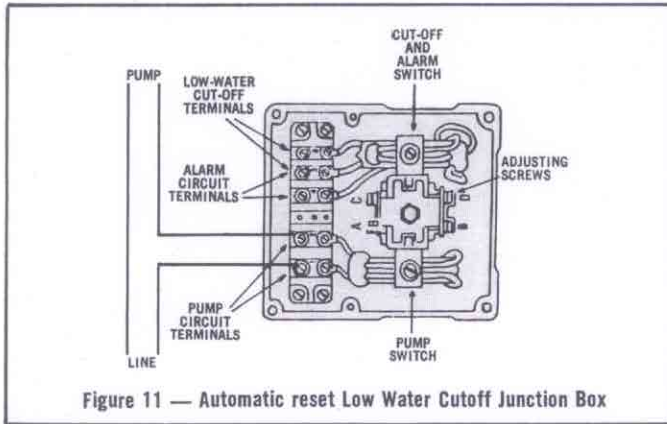

Figure 11 — Automatic reset Low Water Cutoff Junction Box
2. **Checking operation of pump switch.** (Figure 11) With water level visible in sight glass, partially open drain valve at bottom of boiler. If automatic blowdown supplied, push manual blowdown switch until valve open light is on, hold for few seconds. Water level will fall, allowing float to trip pump switch to "ON" position. Close drain valve or release manual blowdown switch.